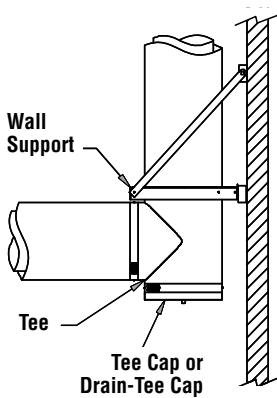

Figure 9 - Suspended Tee
- For supporting the tee, the preferred location is above the tee (see **figure 9**).